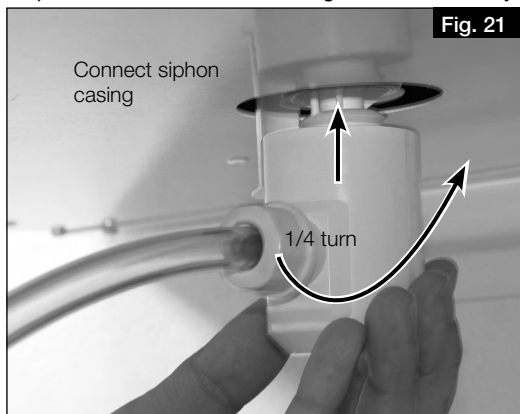

Fig. 21
5. Connect siphon casing and turn a 1/4 turn in the mounting part (see Fig. 21). Ensure that the float ball is loose in the casing!